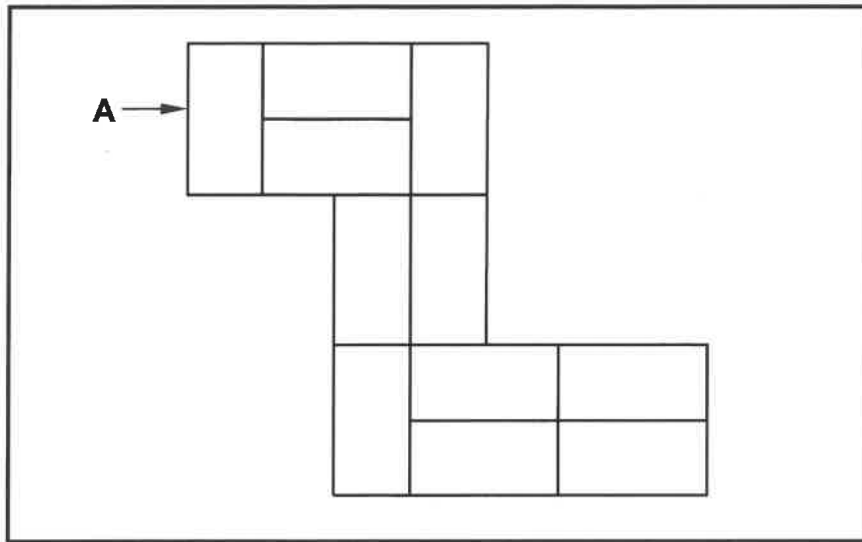

**FIGURE 3.1**
3.1 FIGURE 3.1 below shows a faulty manhole installation.